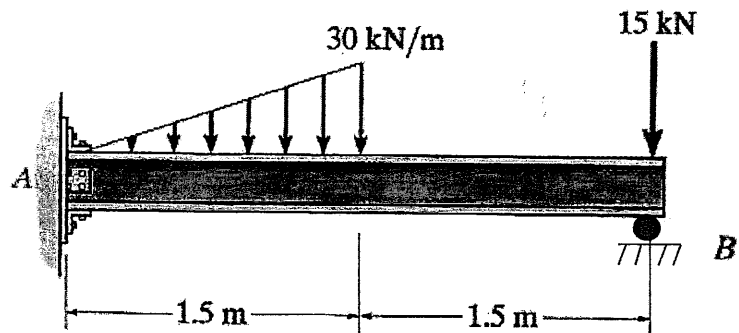

Fig. 5
5. Determine the reaction at support B of the beam, as shown in Fig. 5. Take $E = 200 \text{ GPa}$ and $I = 65 \times 10^6 \text{ mm}^4$. (15%)